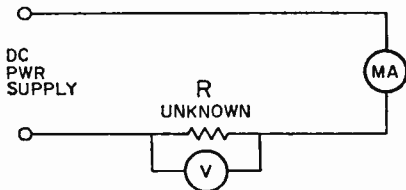

Fig. 2—Here's how to measure high resistance. Using a high voltage source, measure current and voltage and then apply Ohm's Law to calculate resistance value.
**9** There's an alternate method of accomplishing high-resistance measurements which, unlike Tip 8 just given, doesn't even involve using an ohmmeter. The circuit for this method is shown in Fig. 2.